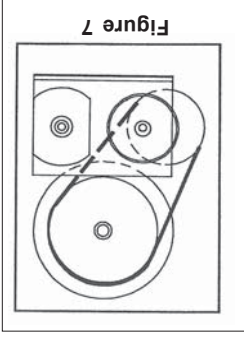

Figure 7
A. Move the drive belt to the pulley on the finish/dry motor. See Figure 7.